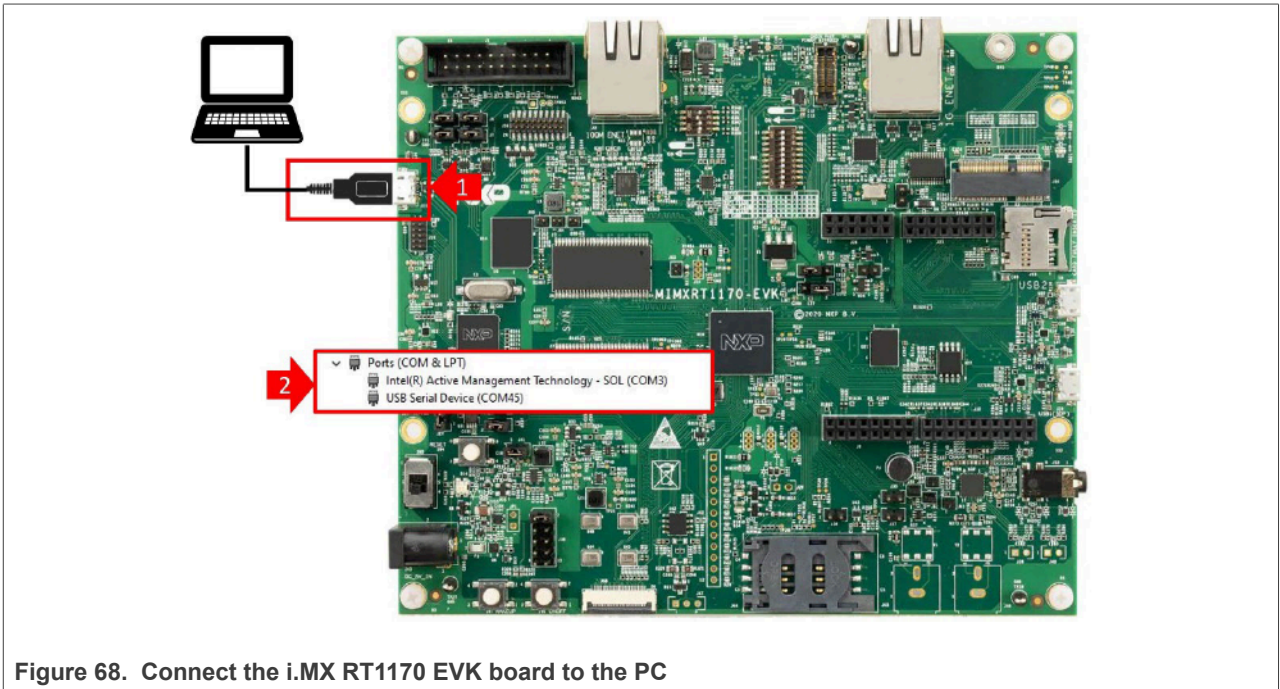

Figure 68. Connect the i.MX RT1170 EVK board to the PC
1. Connect the i.MX RT1170 EVK board to the PC using a micro-USB cable as shown in Figure 68: